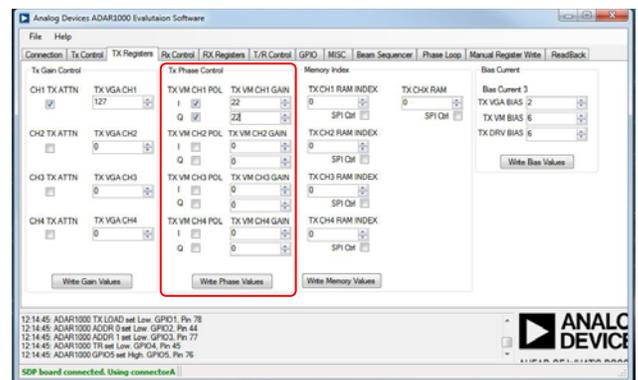

Figure 12. Setting Transmit Channel 1 to 45° in Transmit Phase Control with All Other Channels at 0°
1. Click the **TX Registers** tab (see Figure 12).